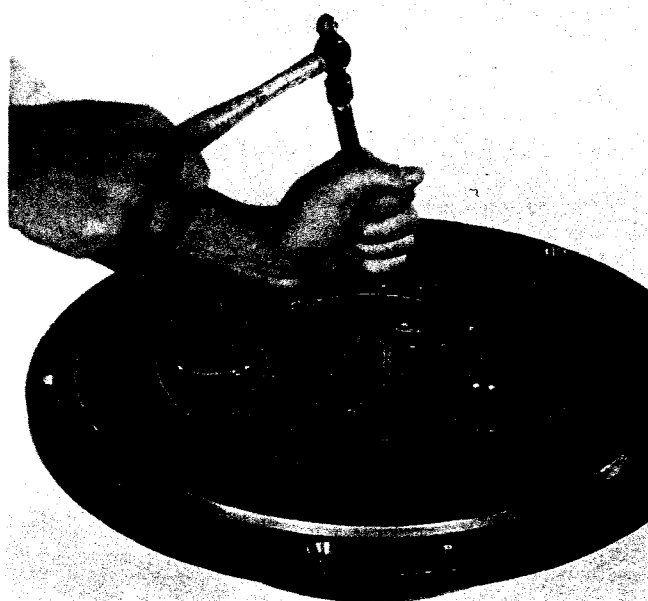

FIG. 136
4. Stake pinion shaft ball groove in two places to lock ball (Fig. 136).